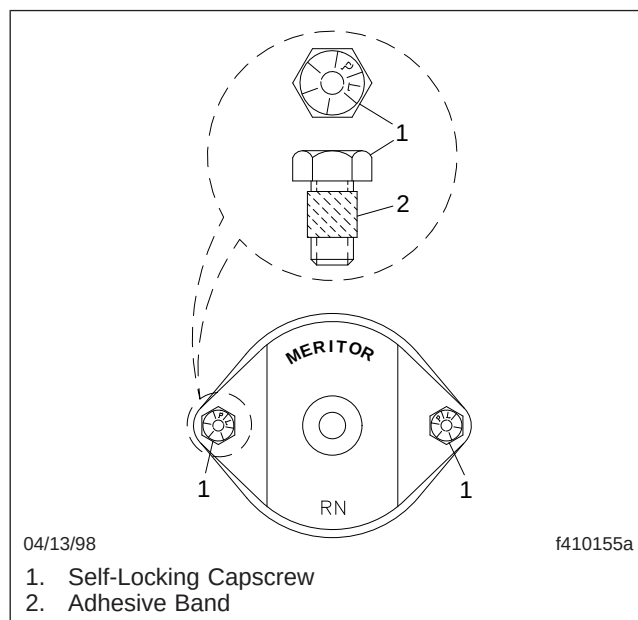

Fig. 1, Meritor U-Joint Fasteners for Bearing Caps
2. For driveline universal joints with bearing caps, tighten bearing-cap capscrews 43 lbf·ft (49 N·m). See Fig. 1, item 1.